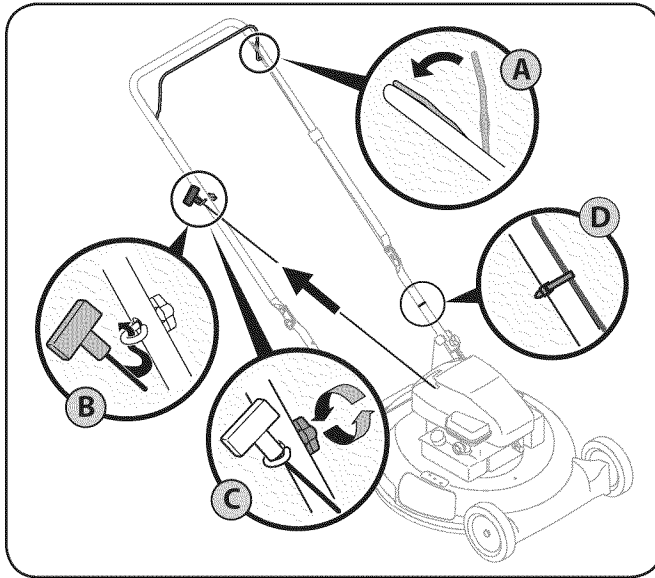

Figure 3-5
- The rope guide is attached to the right side of the upper handle. Loosen the wing knob which secures the rope guide. See Fig. 3-5.
- Slowly pull starter rope handle from engine and slip starter rope into the rope guide. See Fig. 3-5.